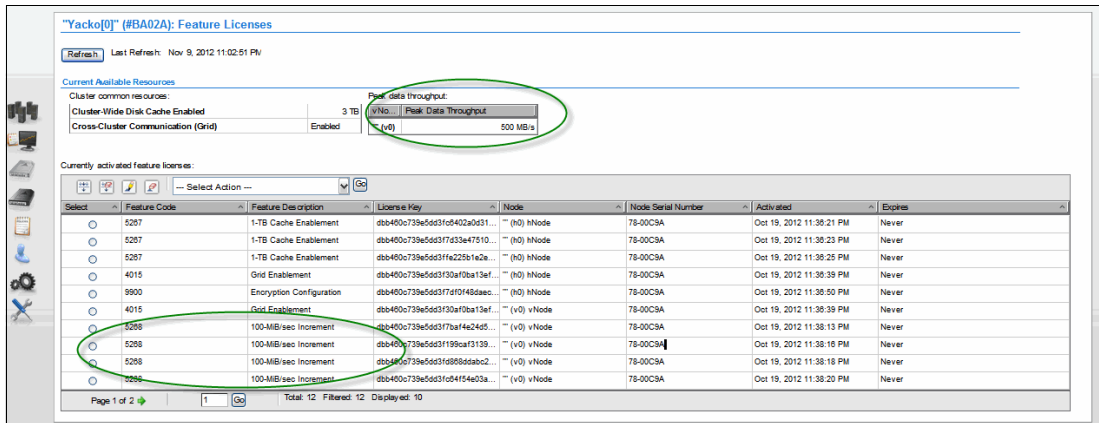

Figure 11-28 Feature Code licenses example
Figure 11-28 shows the installed increments (Feature Code (FC) 5268). In this example, four increments are installed. The throughput is limited to 400 megabytes per second (MBps) because of number of the installed 100 MBps increments.